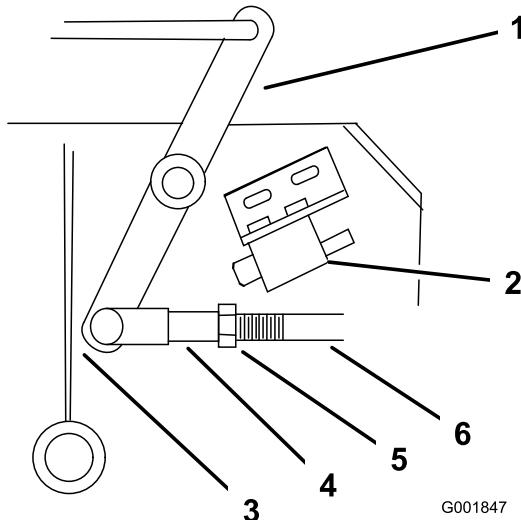

Figure 41
4. Adjust the linkage length to where the lower end of the bellcrank just clears the axle support gusset (Figure 41).
9. Loosen the nut against the yoke (Figure 41).